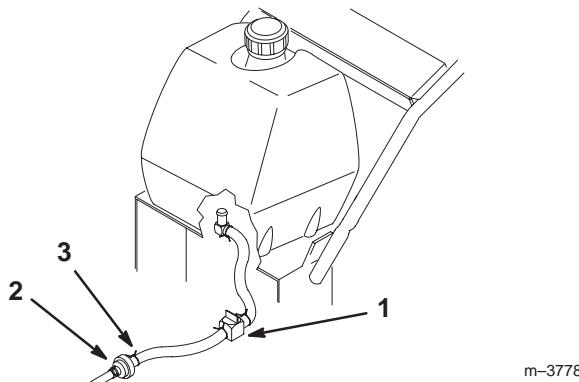

Figure 37
3. Close the fuel shut-off valve in fuel line (Fig. 37).
4. Squeeze the ends of the hose clamp together, and slide it up the fuel line away from fuel filter (Fig. 37).
5. Pull the fuel line off the fuel filter (Fig. 37).
3. Close the fuel shut-off valve (Fig. 37).
4. Squeeze the ends of the hose clamps together and slide them away from the filter (Fig. 37).
7. Open the fuel shut-off valve at the fuel tank (Fig. 37).